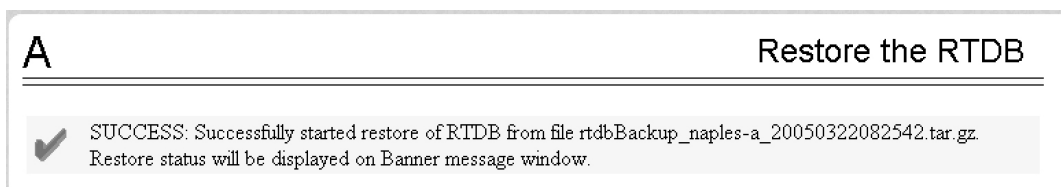

Figure 25: Restore the RTDB - Success
9. When restoring the file is successful, the screen shown in Figure 25: Restore the RTDB - Success displays: